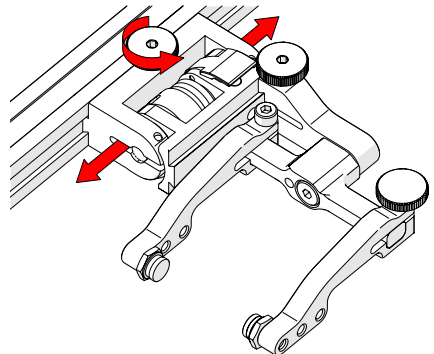

Fig. 197 - Adjust on frame bar
2. Use the probe holder adjustment knob to position the probe holder along the frame bar (Fig. 197).